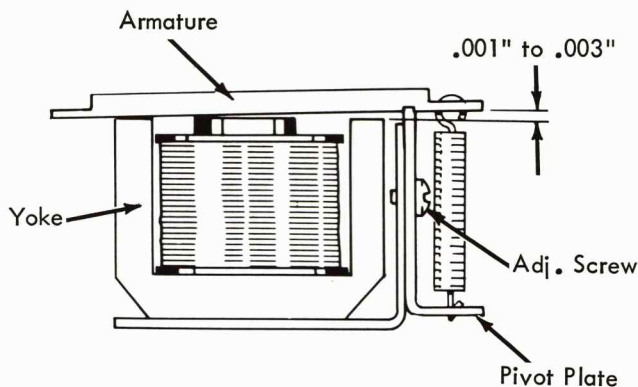

FIGURE 123. Pivot Plate
2. Carrier Return and Space Bar Magnet Pivot Plate (Fig. 123) - Position as follows: